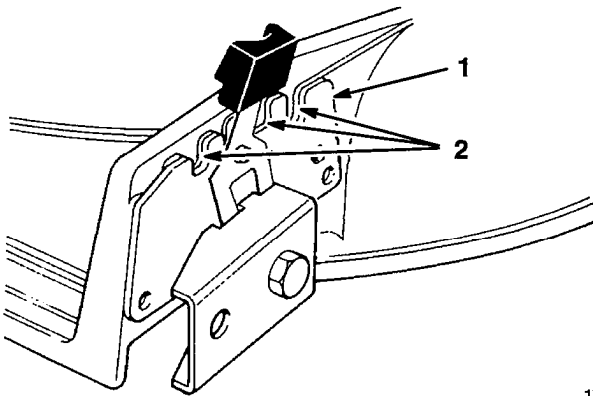

Figure 2
4. Position front wear plate (with five notches) between spring arm and mower housing, aligning notches in wear plate with height-of-cut notches in mower housing. End of wear plate with two holes should always be towards the rear of mower (Fig. 2).